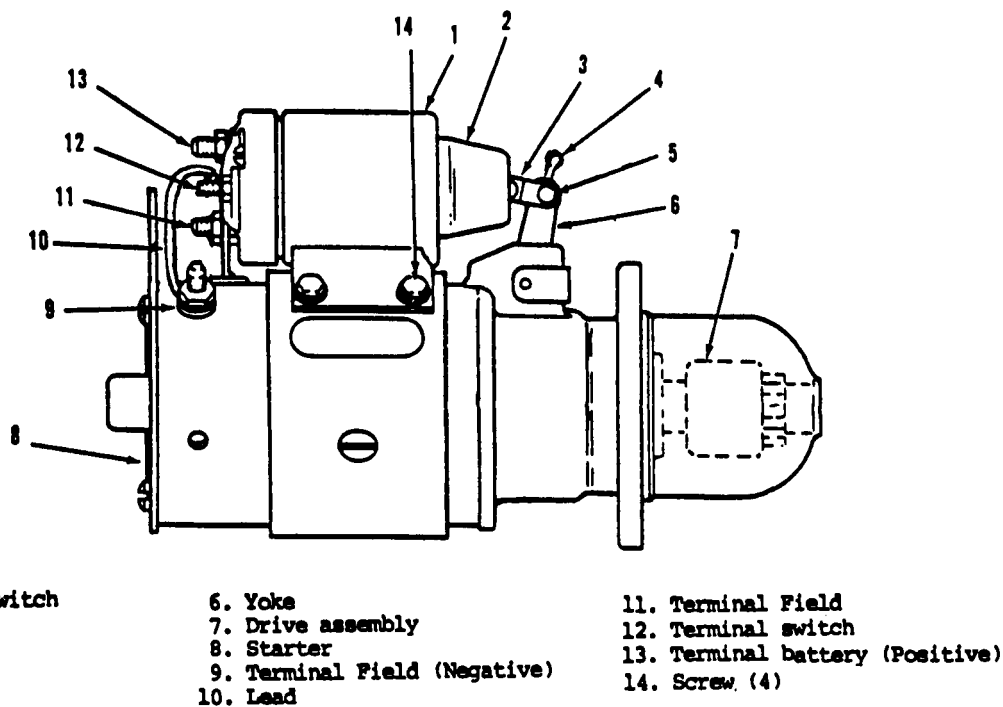
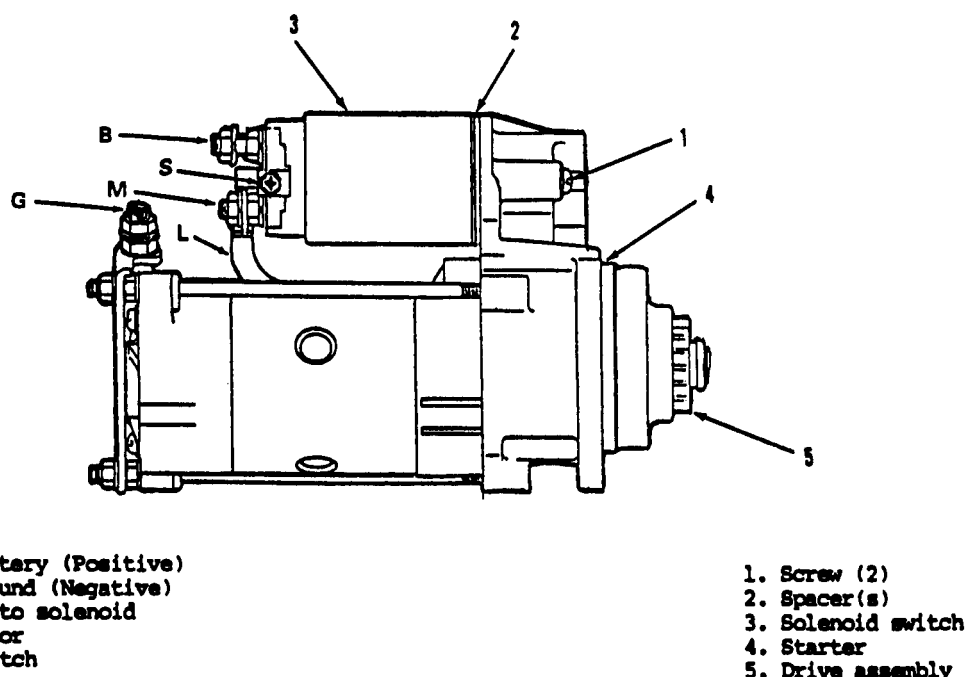

Figure 4-22. Engine Starter Assembly, Style I Starter
Figure 4-22A. Engine Starter Assembly, Style II Starter
(1) Cleaning Starter. Refer to paragraph 3-16a.
(2) Inspecting Solenoid Switch.
(a) Style I Starter. Refer to figure 4-22. Inspect solenoid switch (1) for cracks, dents, or other physical damage. Check to see that the electrical terminals are clean and free of corrosion. Check that the rubber boot (2) on plunger (3), cotter pin (4), clevis pin (5), and yoke (6) are in good condition. Check that plunger (3) and yoke (6) operate freely. Check that solenoid switch (1) is securely fastened to the starter motor (8), with screws (14).
(b) Style II Starter. Refer to figure 4-22A. Inspect solenoid switch (3) for cracks, dents, or other physical damage. Check to see that the electrical terminals are clean and free of corrosion. Check that solenoid switch (3) is securely fastened to the starter motor (4), with screws (1).
(3) Inspecting Drive Assembly. Refer to figure 4-22 for Style I Starter and figure 4-22A for Style II Starter. Inspect drive gear for cracks or chipped teeth. Check that gear and spring of drive moves freely, and returns to rear position when released.
(4) Inspecting Brushes.
(1) Remove Solenoid. If solenoid is defective, remove as follows: Refer to figure 4-22. Remove nut and lockwasher holding lead (12) on small solenoid switch terminal. Remove nut and lockwasher from negative terminal (9) freeing lead (12). Remove nut and lockwasher from solenoid field terminal (11). Remove cotter pin (4) and clevis pin (5) from plunger (3) and yoke (6). Remove screws (14) and lift solenoid switch (1) from frame (8). Retain hardware from terminals for solenoid installation.
(2) Install Solenoid. Refer to figure 4-22. Place solenoid (1) on frame (8) and move to rear until field terminal (11) enters field coil lead strap. Install nut and lockwasher, do not tighten. Install screws (14), do not tighten. Align the plunger (3) on yoke (6) and insert clevis pin (5) and secure with cotter pin (4). Install lead (12) on small solenoid terminal and on negative terminal (9). Secure with nuts and lockwashers. Tighten nut and lockwasher on field terminal (11), and screws (14).
(1) Remove Solenoid. If solenoid is defective, remove as follows: Refer to figure 4-22A. Remove nut and lockwasher on terminal (M) freeing lead (L). Remove screws (1), solenoid switch (3) and spacers (2). Retain hardware from terminal (M).
(2) Install Solenoid. Refer to figure 4-22A. Support new solenoid (3) and original spacer(s), engage solenoid plunger on lever(yoke), secure using new screws (1).